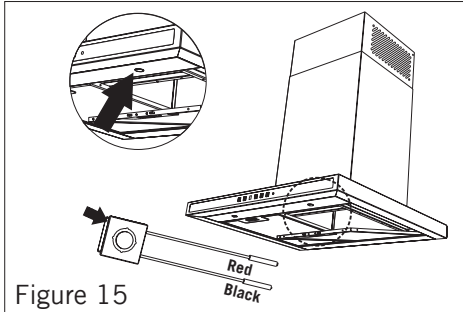

Figure 15
- LED bulb does not operate is possible to remove as shown in **Figure 15**
- Bulb does not operate is possible to remove as shown in. **(Figure 15)**